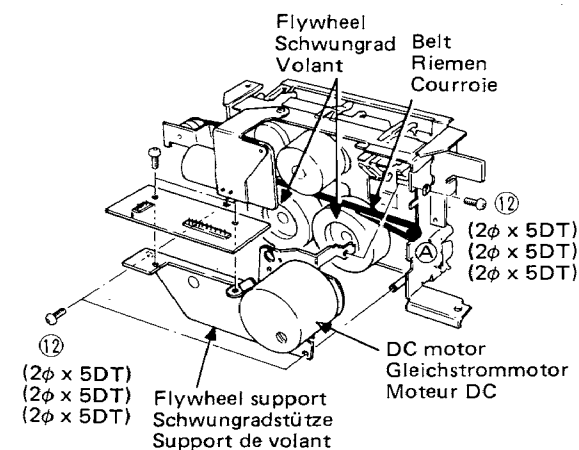

Fig. 9 Abb. 9
(3) Flywheel support (Fig. 9)
(3) Schwungradstütze (Abb. 9)
(3) Support de volant (Fig. 9)